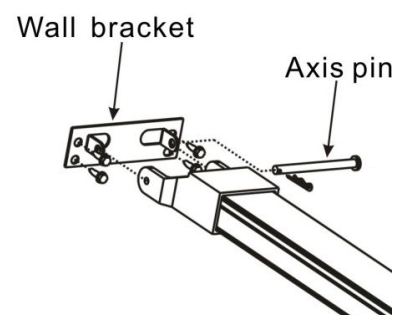

Fig.5
Before attaching the U brackets (E) (Fig. 4) screw an inverted nut (6mm) (D) on each stud then position the brackets (E) on the studs and secure them in-place using a second 6mm-nut and then lock the brackets to the rail by tightening the inverted lock nuts (D). Connect the opener edge (G) to the hanging bracket (F) . Connect the aluminum track to the wall brack (Fig.5). Check measurements for drilling insert and lock the brackets F and fix the opener to the ceiling with the correct fixings (Fig. 3). Cut off any hanging brackets excess.